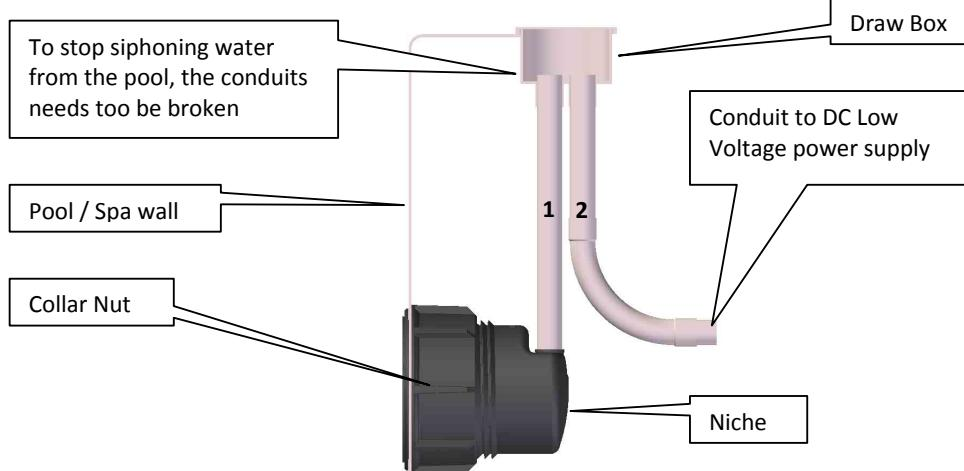
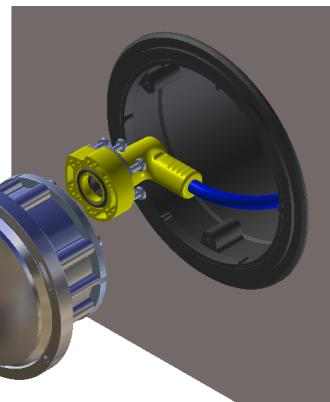

Fig. 17
Fig. 18
13. Prepare a length of 25mm electrical conduit "Tube No: 1" (Fig. 17) to be glued into the top of the niche gland adaptor using PVC solvent cement. The conduit should be extended to above the water level of the pool.
14. Return below ground another tube "Tube No: 2" (Fig. 17) to the light DC Low Voltage power supply. Ensure you have inserted draw wire into "Tube No: 2" to feed the cable from the Niche interior. Ensure you left up to 1m of cable between Niche and Light (Fig. 18) before tightening the cable gland. Surplus of the cable will allow for future service above the pool water level.
15. Remove the plug from dust bag and undo six disposable nuts holding S/Steel bracket, M4 six screws and plug together. Ensure plug O-ring is lubricated and sits firmly in the plug. Ensure plug correct orientation against light black connector then. Push the plug into the light black connector and tight up all six screws firmly with torque 2 - 2.5Nm (Fig. 18). Use across pattern when tightening screws.